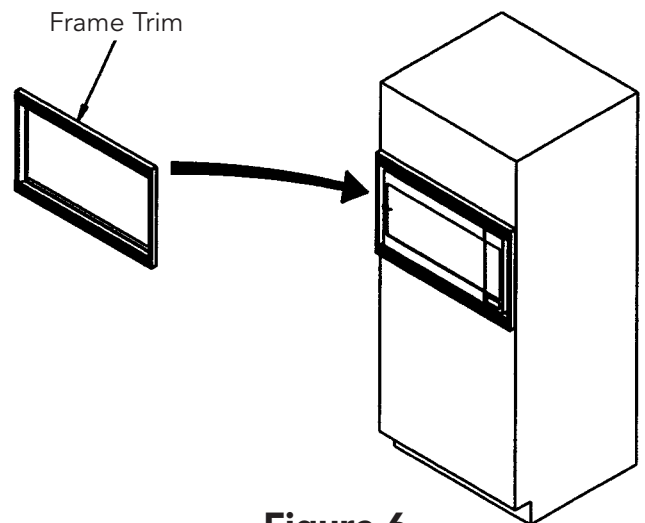

Figure 6
12. Snap on the frame trim with the Thermador logo above the microwave door (Figure 6).